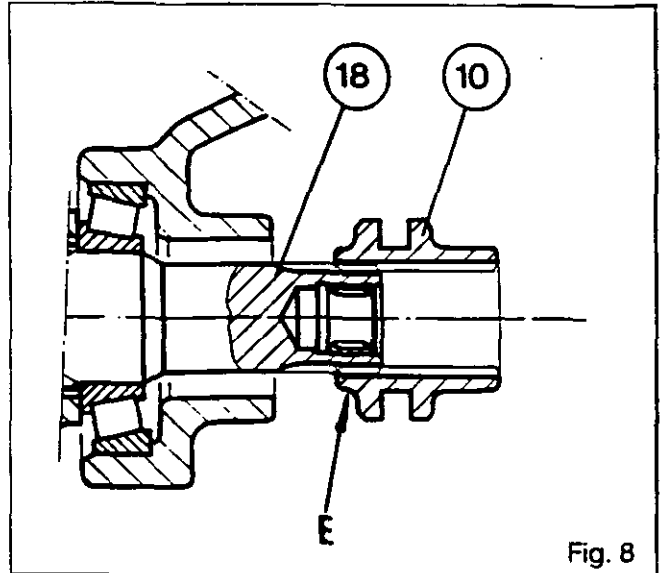
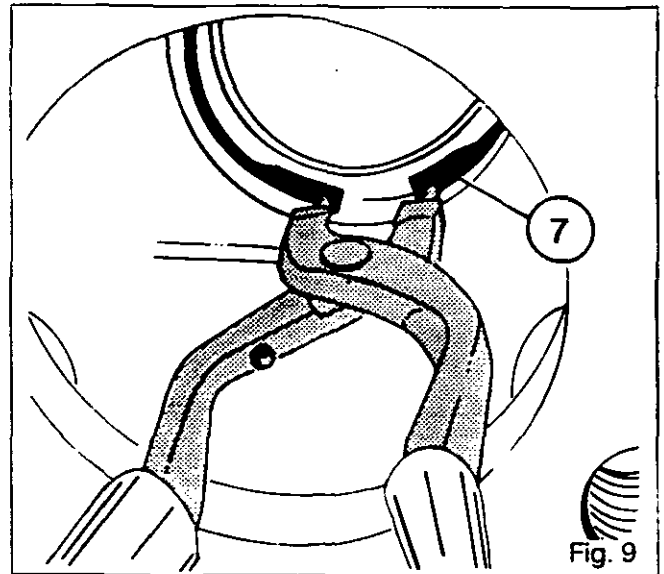

Fig. 8
Fig. 9
33. Remove circlip (23) and spacer (22), take out shaft (18) assembled with bearing cone (19) and circlip (17), keeping circlip (15) in place. Refit gear (16), shaft (18) and bearing cup (20).
34. Apply two spots of grease on adjusting shims [21] selected at step 32, and place them against bearing cup (20).
35. Fit spacer (22) and circlip (23).
36. Replace and clean plug (24), apply Loctite 542 to the rim of its housing and fix in place.
37. Place coupler (10) on shaft (18).
- Note : Put short shoulder "E" facing towards shaft (8)(Fig.8).**
38. Fit circlips (6) and (9) on shaft (8).
39. Using a suitable driver, press bearing (5) onto the shaft in contact with circlip (6).
40. Fit circlip (7) using long-nose pliers (Fig.9).